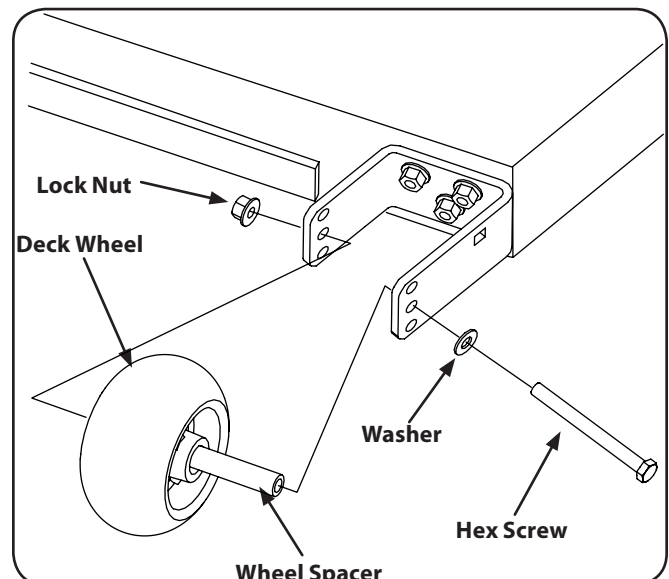

Figure 1-7
2. Remove the lock nut securing one of the front gauge wheel shoulder screws to the deck. Remove the gauge wheel and hex screw. Refer to Figure 1-7.